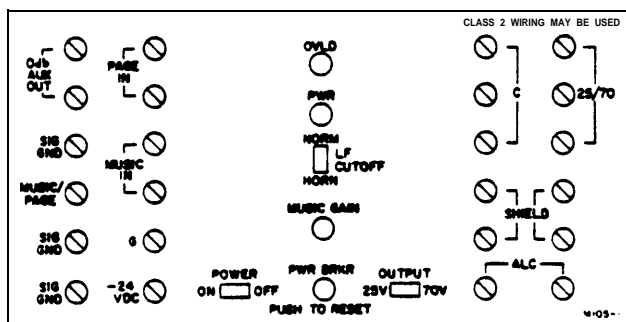

Fig. 29—AmpliCenter® Terminal Strip
5.24 AmpliCenter®: The AmpliCenter® terminal strip (Fig. 29) contains two slide switches for selecting options. They are programmed as follows: